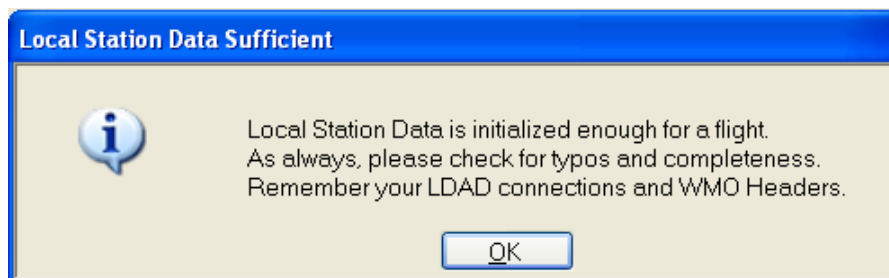

Figure B-22: Local Station Data Sufficient Window
- Click **OK** to close the *Station Data Display*. The *Local Station Data Sufficient* window will display (Figure B-22).